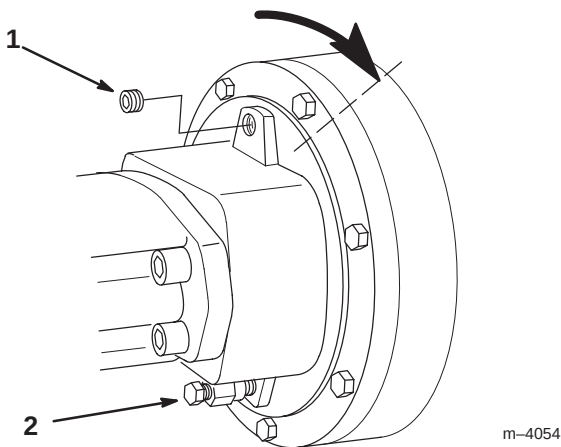

Figure 8
2. Rotate the drive head so that the oil drain plug is located on top and the breather plug is on the bottom (Fig. 8).
3. Remove the oil drain plug (Fig. 8)
4. Rotate the auger drive head so that the drain opening is at the 2 o'clock position (Fig 8). Oil should just begin to come out of the opening.
1. Support the drive head over an oil pan so that the oil drain plug (Fig. 8) is on the bottom of the drive head, facing the oil pan.